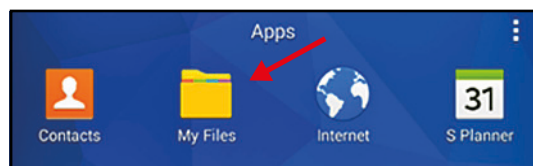

Figure 55: The “My Files” Folder
1. Open the “My Files” folder on the tablet screen and select the APP from the SD folder (see *Figure 55* below).